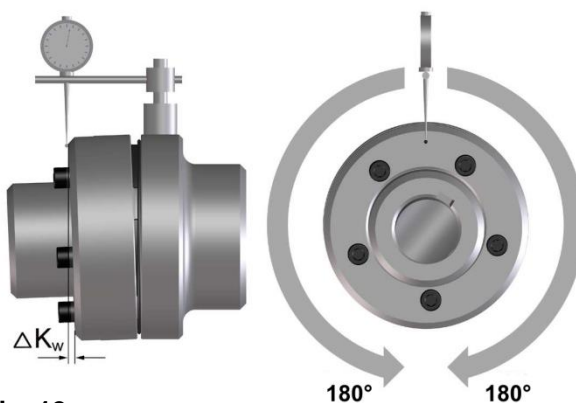

Fig. 12
- ❑ Calibrate one entire rotation (360°). Determine the largest deviation ΔK_{w1} as well as the smallest deviation ΔK_{w2} (Fig. 12). Calculate the angular misalignment $\Delta K_w = \Delta K_{w1} - \Delta K_{w2}$